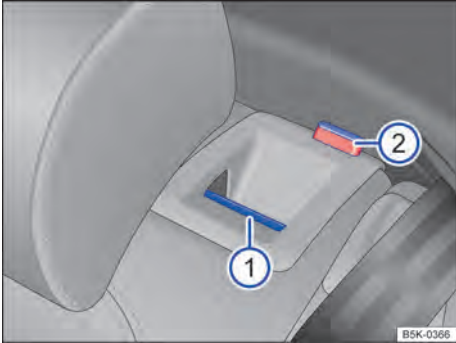

Fig. 66 On the rear seat backrest: unlocking button.
- Pull the release button → Fig. 66  forward and simultaneously fold the rear seat backrest forward.
- The respective section of the rear seat backrest will be released when the red marker → Fig. 66  pops up.
- The red marker → Fig. 66  must no longer be visible.